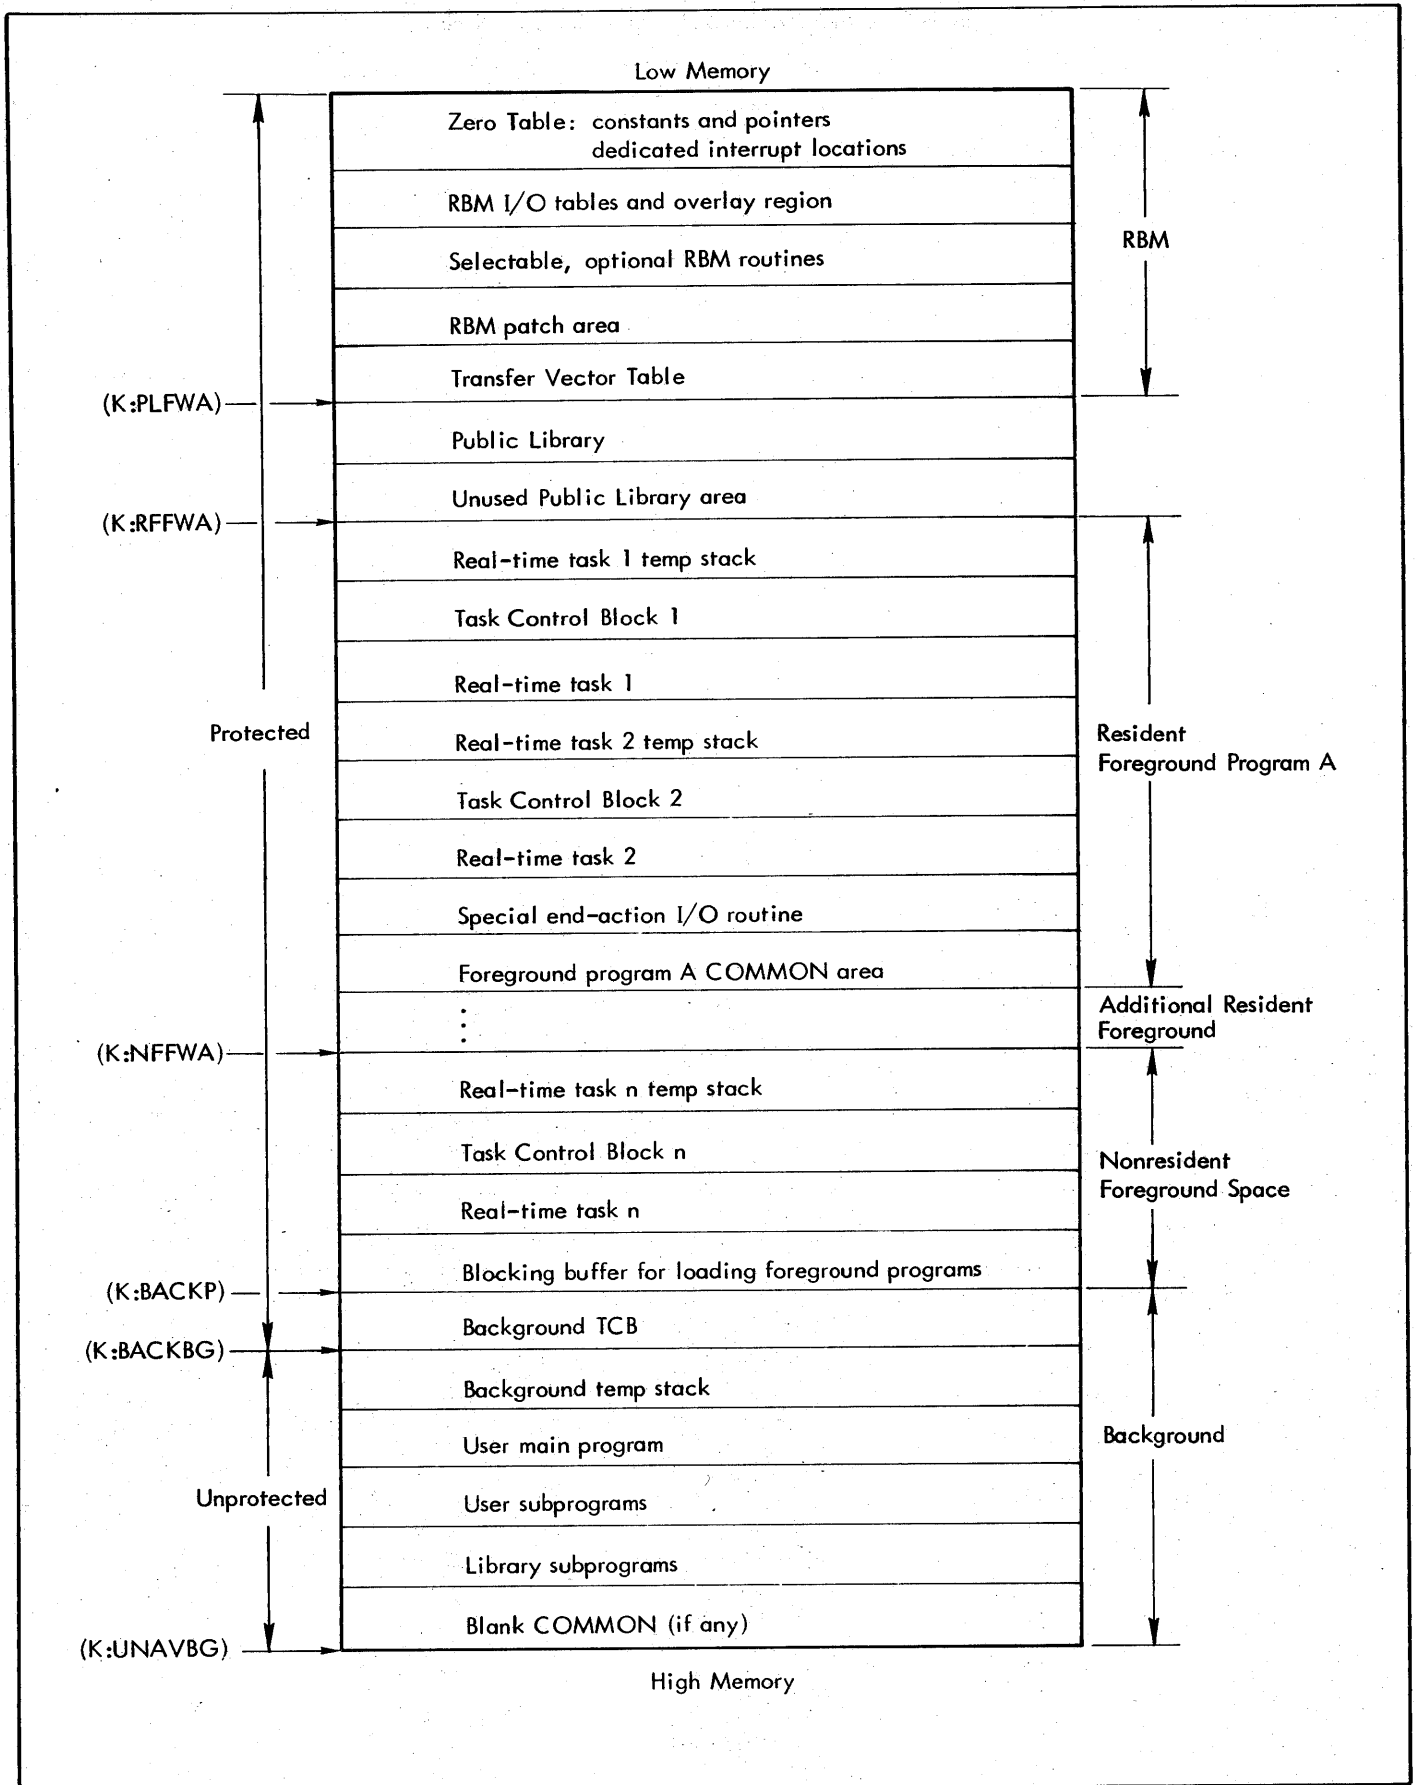

Figure 4. RBM Memory Allocation Example
Main memory is allocated in the following manner (and as illustrated in Figure 4):
The user should decide which of the areas described under item 3, above, are more apt to need additional space in future and make allocations accordingly. A given area could then be expanded downward in a future SYSGEN, into unused area space below it, and only the programs in the reallocated area would have to be reloaded, not the entire system. (In Figure 4, for example, the resident foreground might expand into the unused Public Library area.)